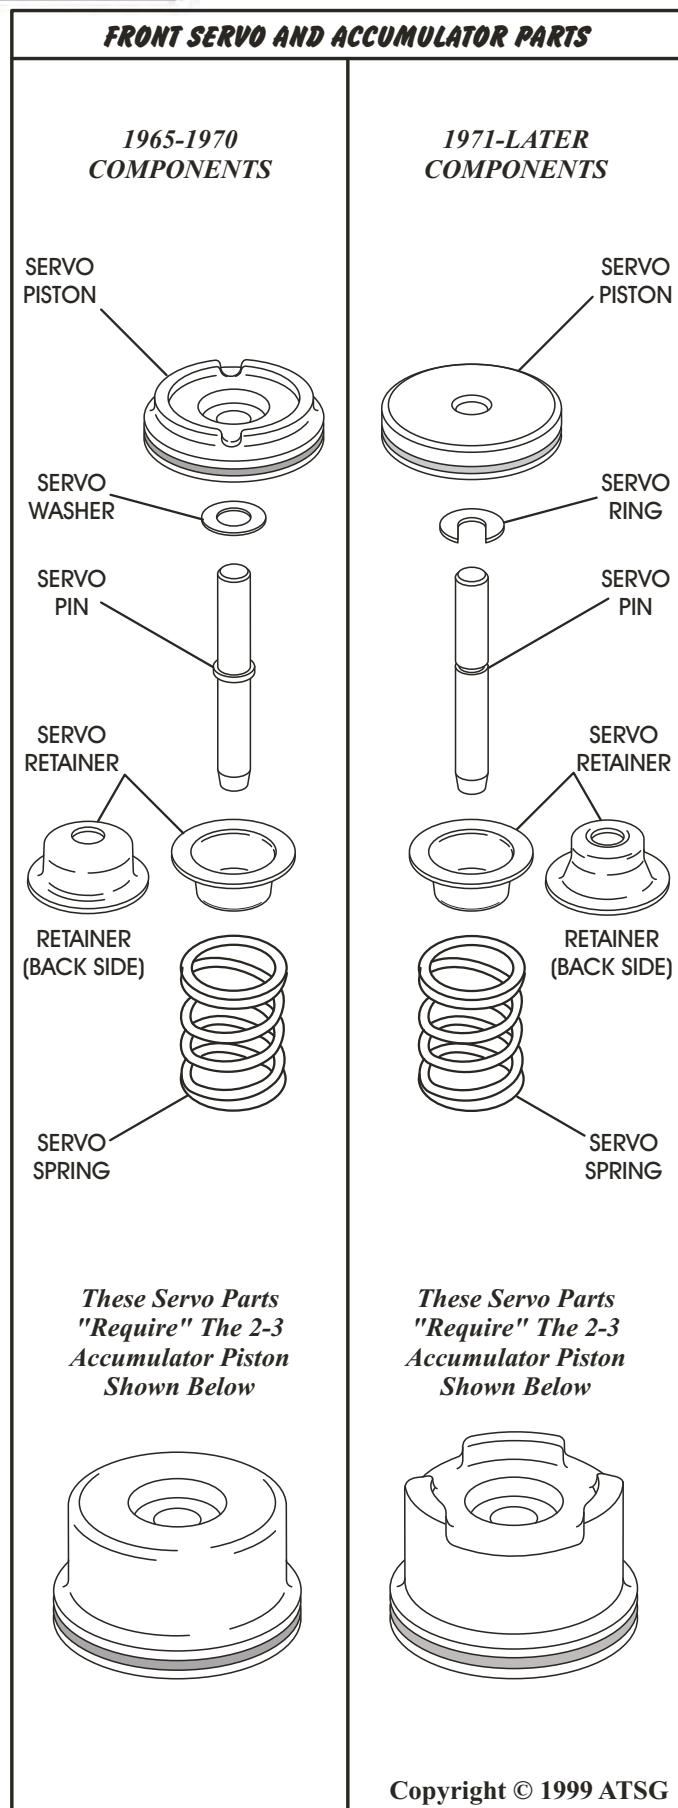

Figure 121
- Caution: There are two different styles of the Manual 2 servo components. One with the "Castles" on top of the servo piston and one that is flat on top. The servo components must match the 2-3 accumulator piston in the valve body, as shown in Figure 121.**